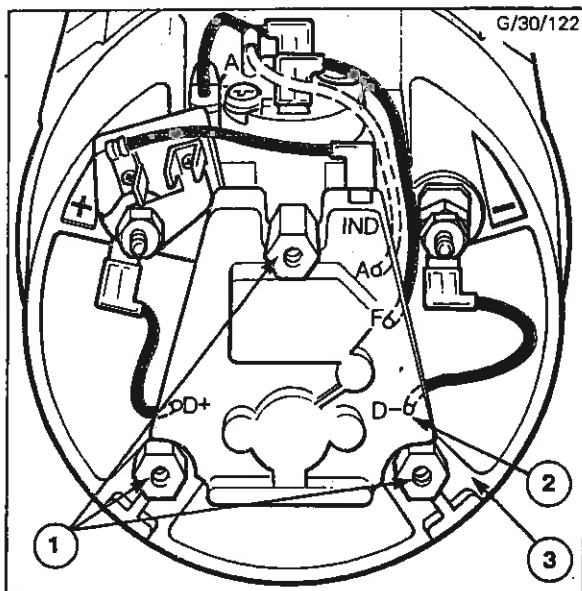

Fig. 86 - Slip Ring End Shield and Regulator
The AC5R alternator is very similar to the AC5 alternator in mechanical construction and in the way in which current is generated. The major difference is in the voltage regulator which is an integral part of the AC5R machine; it is mounted on the slip ring end shield as illustrated in Fig. 86. The regulator is of solid state circuitry throughout and is fully encapsulated for maximum protection; no adjustments are required and the unit must be renewed if found to be faulty.
4. Unscrew and remove the three pillars (1) with their spring and plain washers and detach the regulator (2) from the slip ring end shield - see Fig. 86.